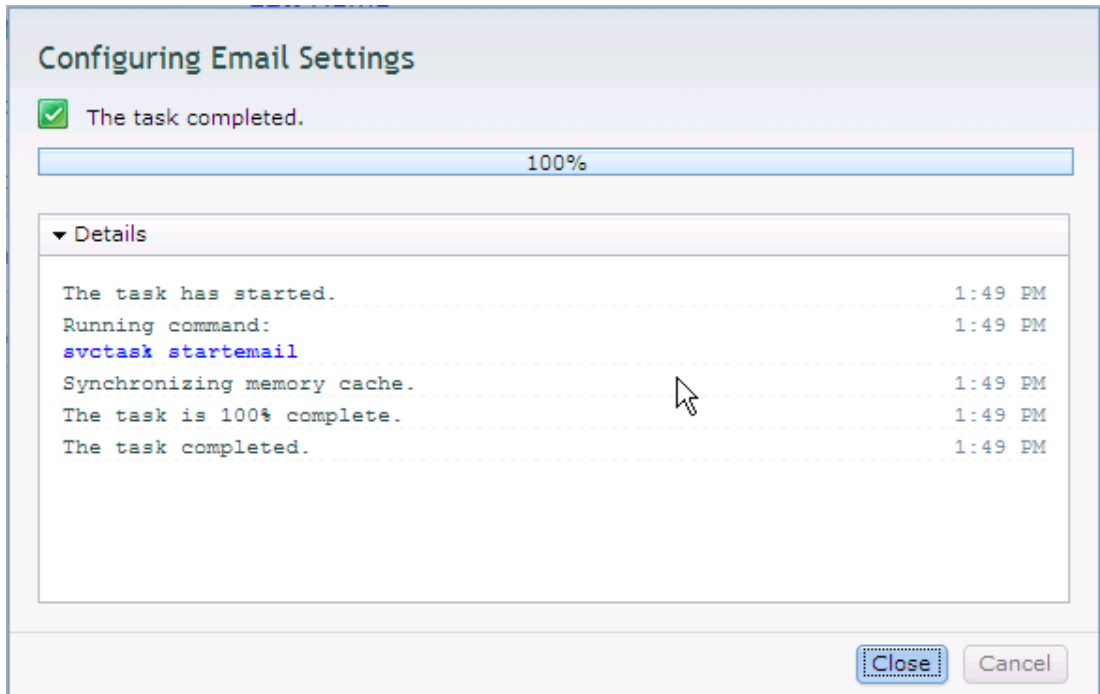

Figure 2-33 Configuring Email Settings
3. Choosing finish here will setup the email settings for the event notifications and you will see the screen shown in Figure 2-33.